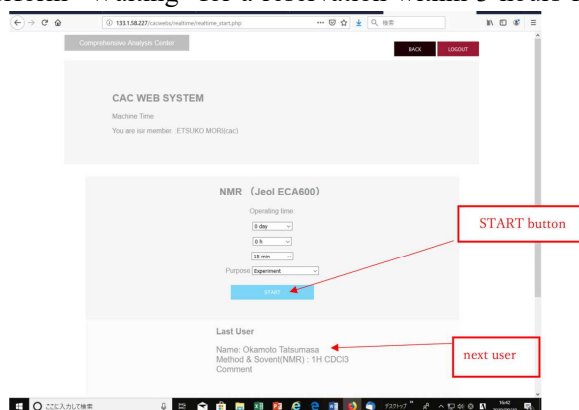

Figure 5
- 2)Choose the utilization time. Click **"Start"** button when starting measurement (Figure 5).